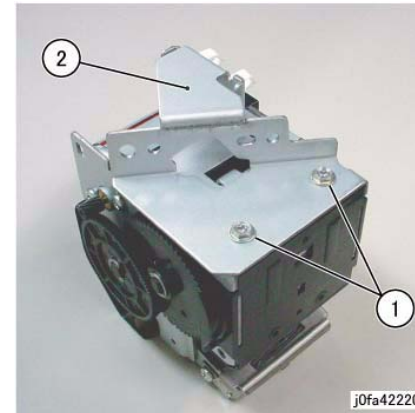

Figure 2 Removing the Bracket (j0fa42220)
4. Remove the Bracket from the Staple Assembly. (Figure 2)